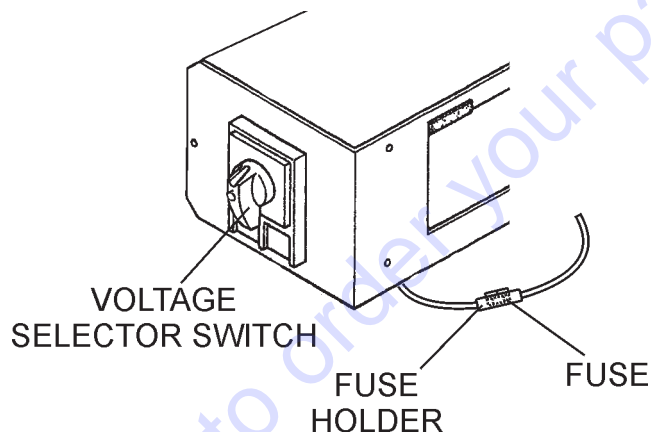

Figure 14. Blower Fan Fuse
This unit has an intake fan located at the rear of the machine to draw outside air into the cabinet to cool the engine. The fan has a 10 amp AC fuse located beneath the **Voltage Selector Switch** (Figure 14).
A wide range of voltages are available to supply voltage for many different applications. Voltages are selected by using the **voltage selector switch** (Figure 14). To obtain some of the voltages as listed in Table 6 (see below) will require a fine adjustment using the **voltage regulator** (VR) **control knob** located on the control panel.